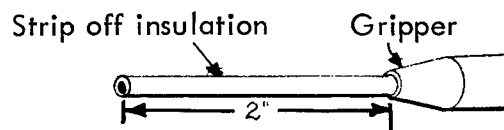

Figure 9
2. Strip insulation of stub (See figure 9).